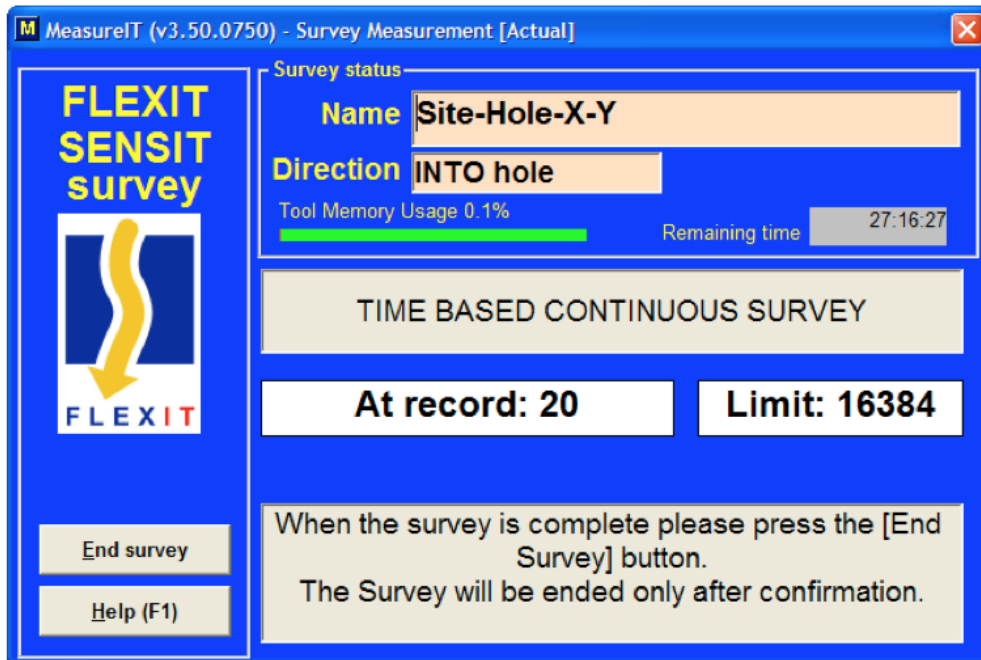

Figure 8 Real-time measurement status screen
b. Once the survey has started, the window will appear as in **Figure 8**.
1. After receiving the tool from the CT's, **unload the tool from its brass pressure case** and keep it within a 5 meter line-of-sight of the TransIT adapter to the computer. Return to the measurement screen (Figure 8) and click **End Survey**. An option to download the data follows.